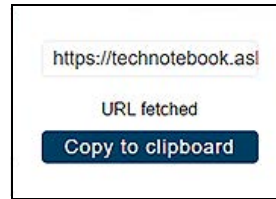

Figure 13-13
3. Select **Copy to Clipboard** (Figure 13-13) from the pop-up window.